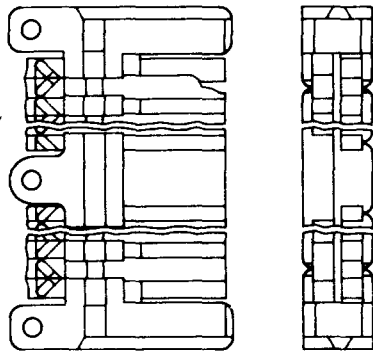

Fig. 4—923A or B Connector
2.06 923A and B: The 923A and B connectors (Fig. 4) consist of a molded housing of insulating material and is made to plug into the 926A, B, C, and D connectors. These connectors are equipped with two rows of 23 spring terminals having ends arranged for solder connections to 0.062 inch thick printed wiring boards. The 923A and B connectors are used in the No. 101 ESS.